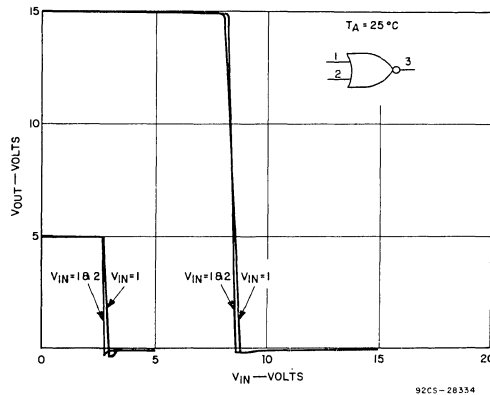

Fig. 5 — Voltage transfer characteristics of a buffered 2-input NOR gate (CD4001B).
–Buffered—The buffered 2-input NOR gate voltage-transfer characteristics, Fig. 5, are squared because of the gain of three CMOS stages from input to output. Fig. 5 shows that noise voltage inputs of ± 1.5 V at $V_{DD} = 5$ V and ± 4 V at $V_{DD} = 15$ V will have little discernible
–Unbuffered—Fig. 6 shows the rounded voltage-transfer characteristics of the 2-input unbuffered NOR gate. Also evident is the shift in the transfer curve for the different logic input states. Compare these curves to those of Fig. 5 and the effects of the non-buffered inputs as well as the gain differences are evident. The rounded characteristics require a noise-immunity specification of $\pm 20\%$ of V_{DD} at 5, 10 and 15 V as well as a reduced noise margin: 0.5 V at $V_{DD} = 5$ V and 1.0 V at $V_{DD} = 15$ V.
Noise Immunity—Table III shows the detailed input-voltage data-sheet specifications for buffered and unbuffered gates. From these test conditions the user-oriented noise-immunity and noise-margin data of Table II are derived. Also refer to Figs. 5 and 6 for the voltage-transfer characteristics that illustrate the reason for the different input-voltage-specification requirements for buffered and unbuffered devices.